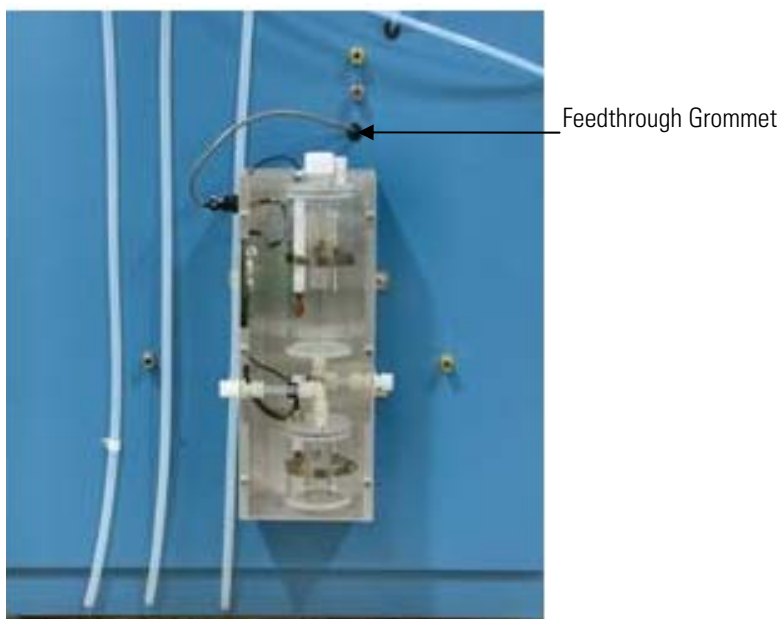

Figure 6–1. Hydrator Mounted Outside Rack
3. Connect the modular eight-pin connector to the Hydrator bulkhead connector located at the top left of the unit when viewed from the front. Run this cable to the rear of the 80i, utilizing available feedthrough grommets (**Figure 6–1**).